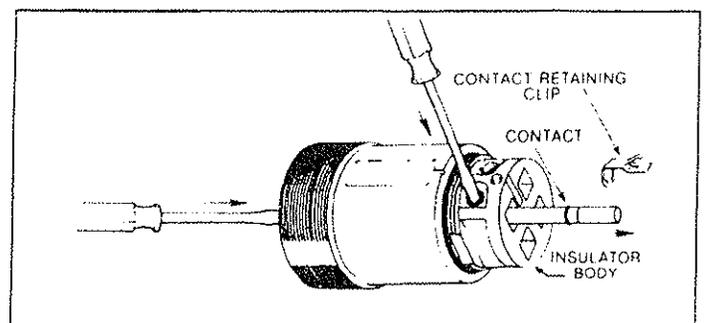

Figure 9. Contact Removal
- Remove all contacts (except the grounding contact) from the connector housing in NPR cord connectors that require crimp or solder contact terminations. To remove the contacts, insert a flat blade screwdriver into the contact recess, depressing the contact retaining clip. While depressing the retaining clip, push on the contact from the opposite end removing the contact. See Figure 9. Remove the retaining clips from contacts and retain for reassembly.